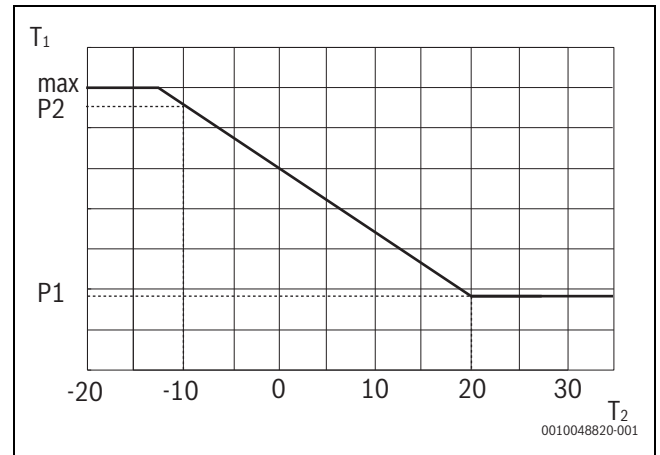

Fig. 67 Heating curve
- ▶ The heating curve can be adjusted in the service menu by changing P1 and P2 to set up a basic heating curve as indicated in → Fig. 67